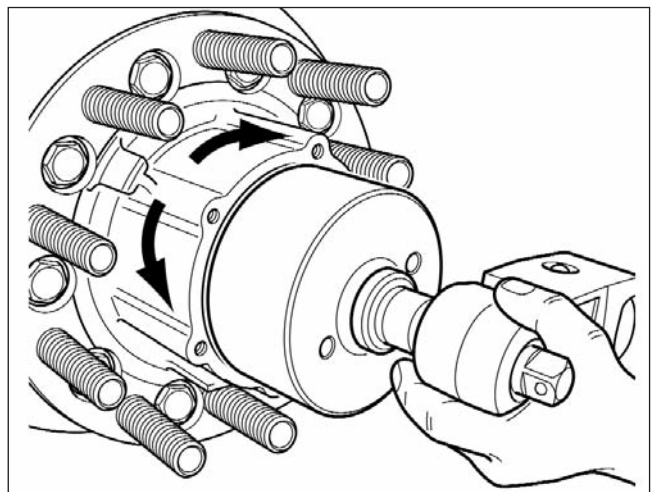

Fig. 4.15
- T** Tighten the nut to 271 Nm, while rotating the wheel end in both directions (Fig. 4.15).